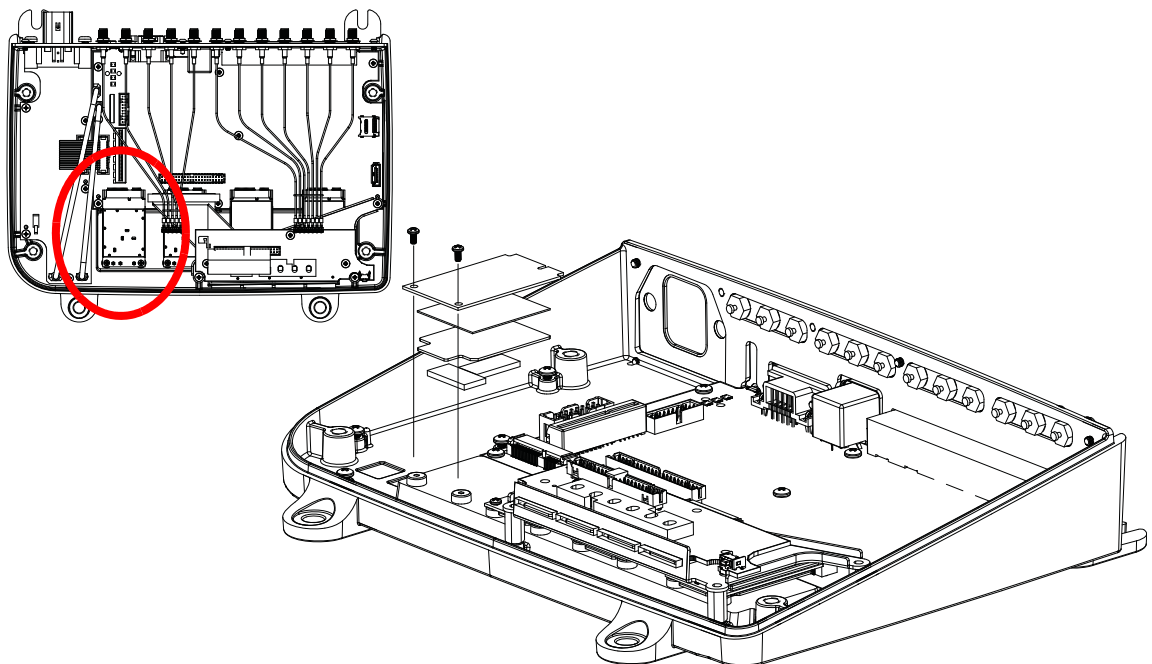

Figure 2: Removing the existing module (if present)
4. If a radio module is present in the second slot indicated in Figure 2: